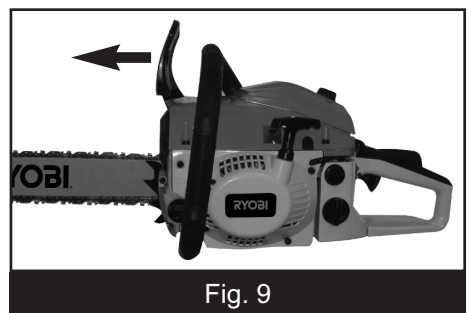

Fig. 9
1. Push the chain brake lever forward to engage the chain brake. (Fig.9)